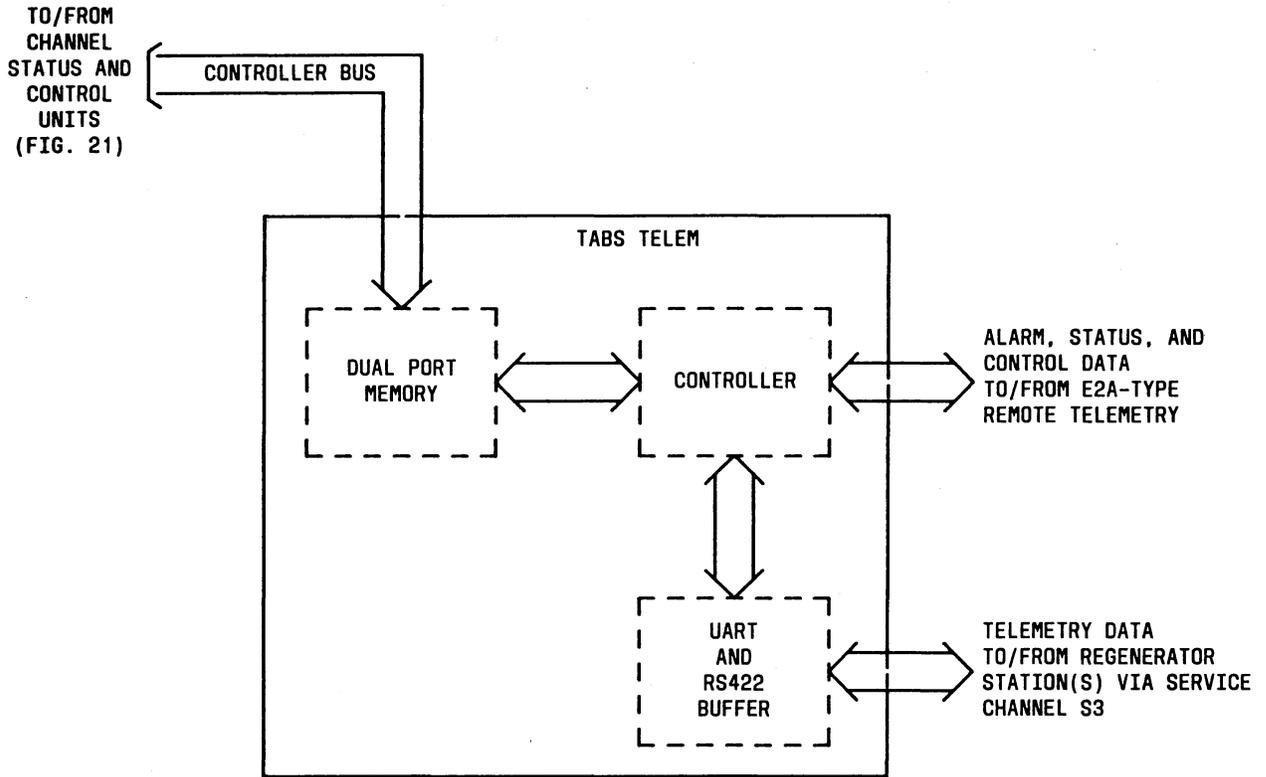

Fig. 23—TABS AS&C Telemetry
- Figure 23—TABS AS&C Telemetry